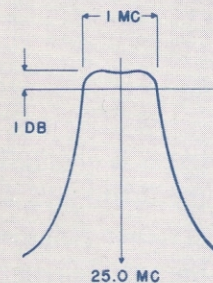

FIG. 5a. TUNER I.F. COUPLING RESPONSE
- 7a. Adjust L5 on the tuner and L1 on the I.F. strip to obtain a double tuned flat top response, with the 25 mc marker in the center, and a bandwidth of approximately 1 mc at the minus 1 db level (Figure 5a).